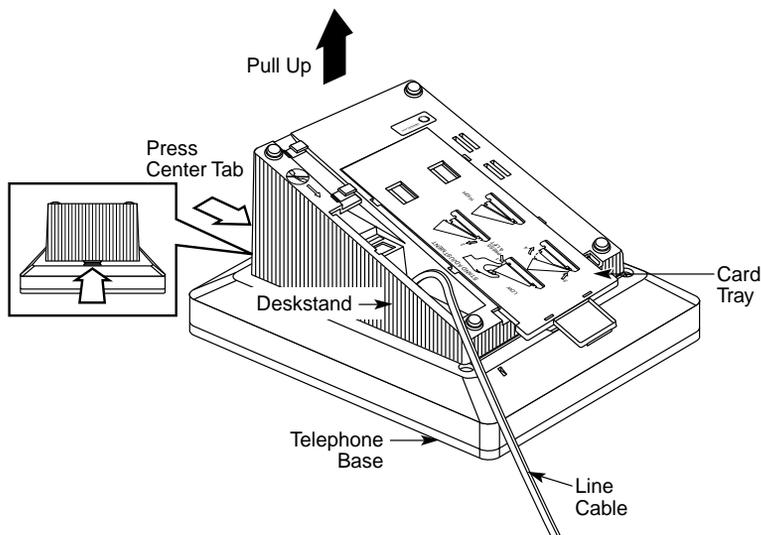

Figure 3-18. Adjusting the Deskstand Height
► **11. Adjust the deskstand height. See Figure 3-18.**